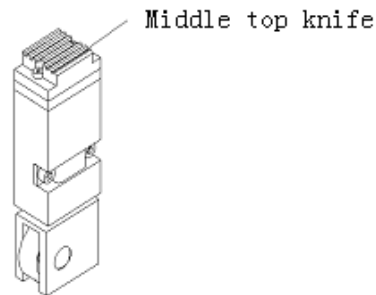

Fig5-2
f. Used bailing strap is too thin so that top pressure is not enough. If using this bailing strap, spacer less than 0.5mm should be added under middle top knife to thicken it (See Fig5-2)
that strap is not fed to the position. Therefore after adjusting or disassembly middle top knife should fix firmly (See Fig5-2).